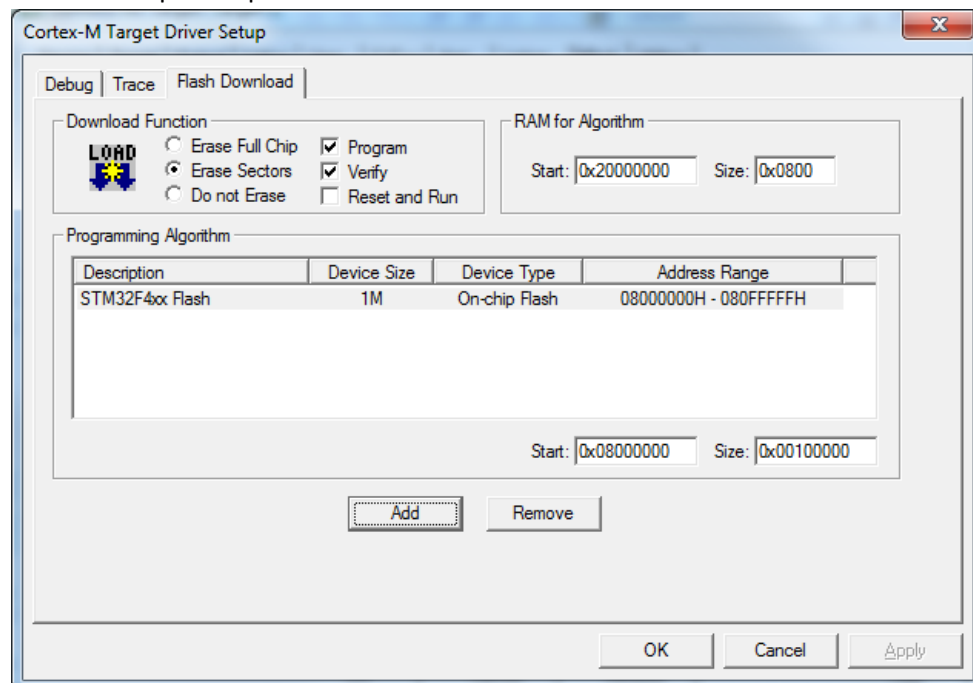

Figure 8. STM32F4xx flash programming algorithm selected
- Click on the **Flash Download** tab of the Cortex-M Target Driver Setup Window (Figure 8) and under **Programming Algorithm**, click the **ADD** button and select **STM32F4xx Flash**. Then you can close the setup and options windows.